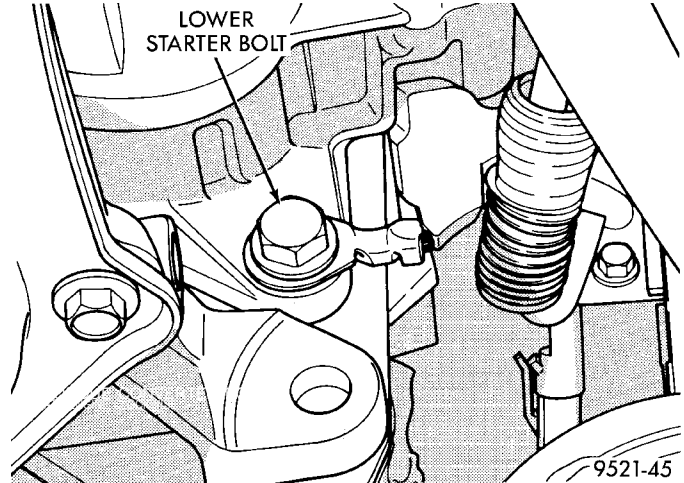

Fig. 39 Starter Bolts
(16) Remove lower starter bolt (Fig. 39).
(17) Remove lower dust shield screw.